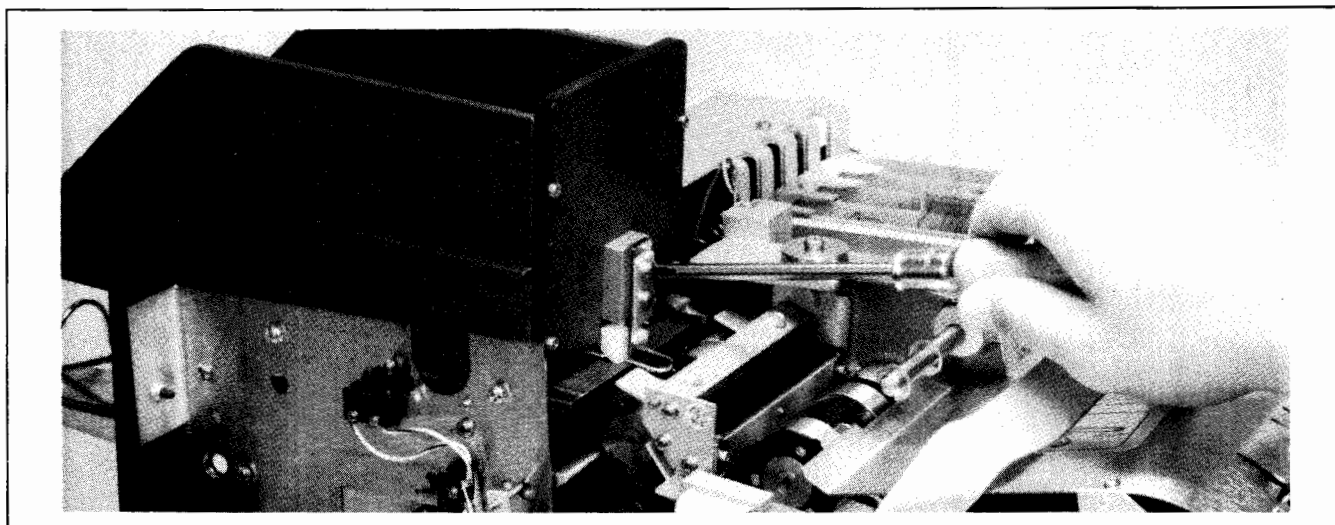

Figure 5-15. Hopper Gate Adjustment
- b. Loosen holddown screws (2) and slide gate down firmly against gauge. See Figure 5-15.